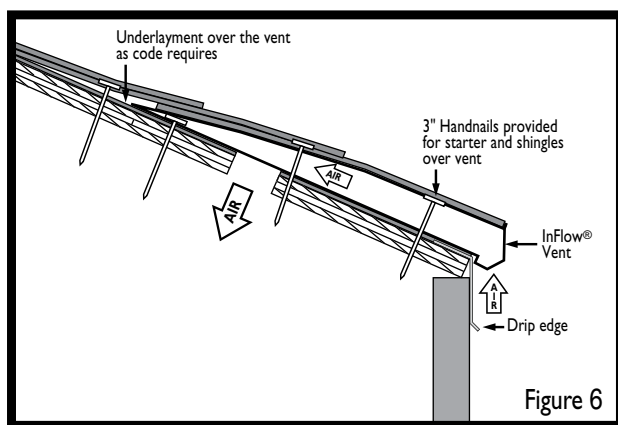

Figure 6
See Figure 6 and 7.
**Step 11:** Hand nail the starter and roofing shingles on top of the vent using the 3" nails provided. See Figures 6 and 7.